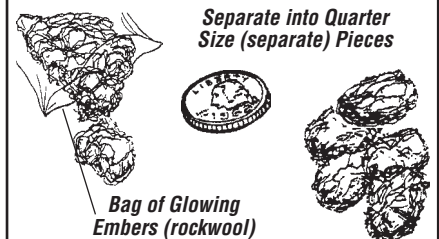

Figure 52
4. **Placement of Glowing Embers** - Separate the Embers (rockwool) into pieces about the size of a quarter (see **Figure 52**). Keep the pieces fluffed up, not matted. Distribute these pieces over the surface of the burner, as shown in **Figures 53 & 54**. Do not use more than is necessary. Ensure that the main burner slots remain uncovered by the ember material.